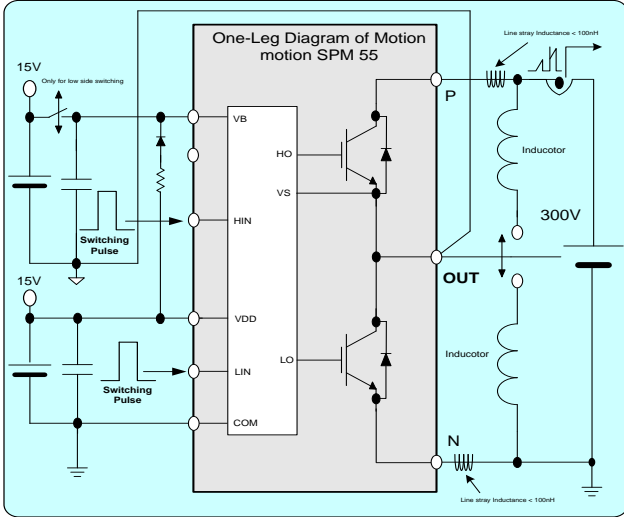
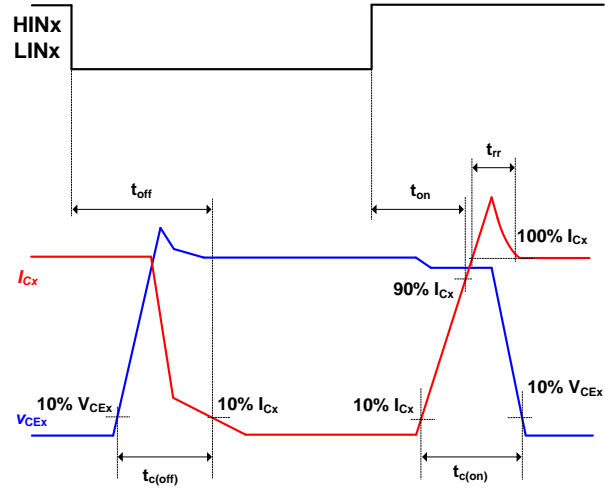

Figure 6. Switching Evaluation Circuit
Figure 7. Switching Time Definition
- t_{ON} and t_{OFF} include the propagation delay of the internal drive IC. t_{C(ON)} and t_{C(OFF)} are the switching times of the IGBT itself under the given gate driving condition internally. For the detailed information, see Figure 6 and Figure 7.